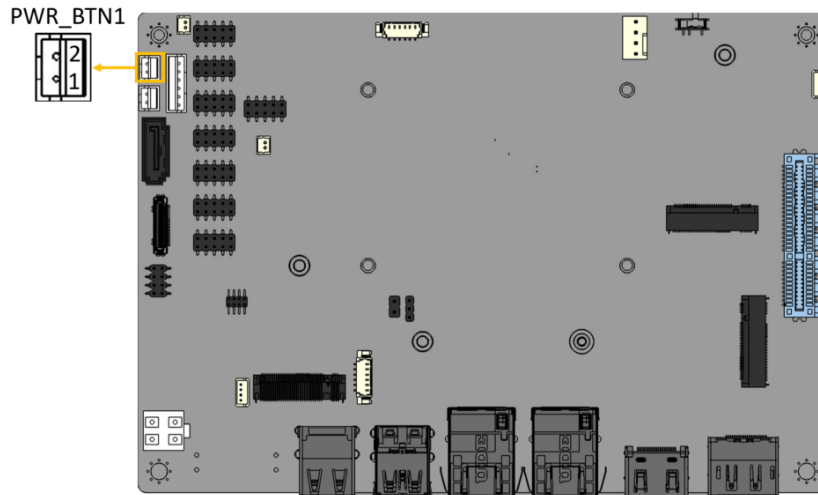

Figure 3-12: Power Button Connector Location
- CN Location:** See **Figure 3-12**